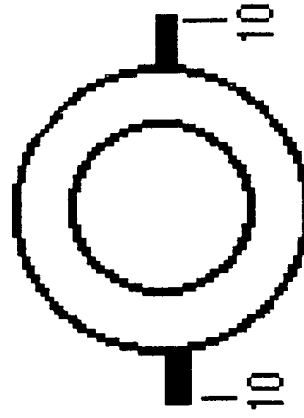

FIG. 5A
- Fig 5A shows top view of spark plug ~~(tip)~~ TERMINAL with built-in slot-pins.